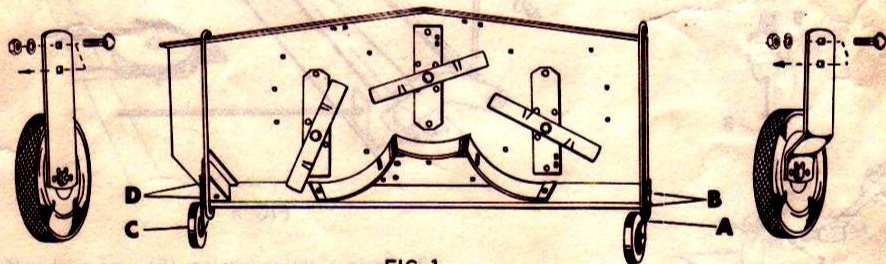

FIG. 1
1. Assemble L.H. gauge wheel assembly (A), to L.H. end of mower (closed end) as shown, using two 3/8 x 1 carriage bolts (B), lockwasher, and hex nuts furnished. NOTE: Offset of bracket and wheel in towards center of mower and head of bolts to outside. Refer to Fig. 1.
2. Assemble R.H. gauge wheel assembly (C) to R.H. side of mower (discharge side) in the same manner, with the other 3/8 x 1 carriage bolts (D), lockwashers, and hex nuts furnished. NOTE: Wheel to outside of bracket as shown, and head of bolts to inside. Lift up on gauge wheels when tightening bolts. Wheels are assembled to second hole from top of bracket, which is recommended for a cutting height of 2 1/4 inches. The gauge wheels should clear ground by approximately 3/4 inch when tractor is on level ground and lift lever has been set to height of cut desired. Gauge wheels suspended as above keep wheels from tearing turf on sharp turns by wheels sliding sideways.